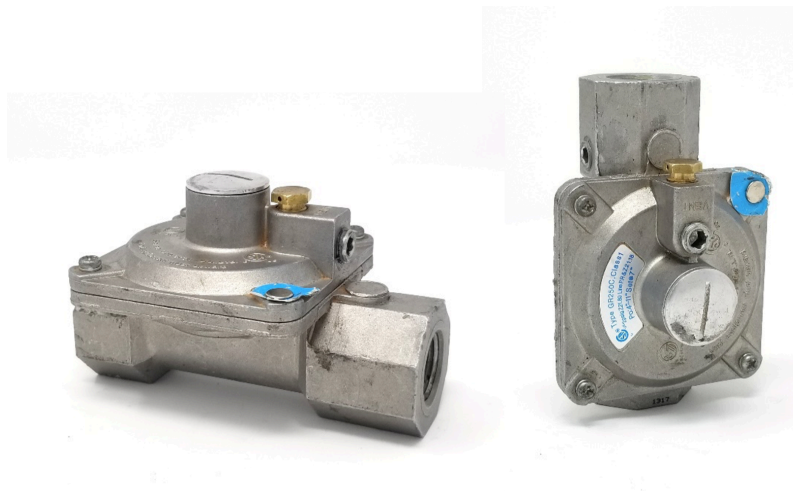

Figure 18. Multi position 2 psi line pressure regulator
In order to keep the leak limiter vertical most manufactures will require the regulator to be mounted in the horizontal upright position. Some regulators are approved for use in the vertical position, for example Figure 18 shows a regulator designed with two vent connections which enable the regulator to be installed either vertically or horizontally using the appropriate location for the vent limiter and a plug in the other.
- Figure 18. “Multi position 2 psi line pressure regulator” by Camosun College is licensed under a CC BY-NC-SA licence (<https://creativecommons.org/licenses/by-nc-sa/4.0/deed.en>).